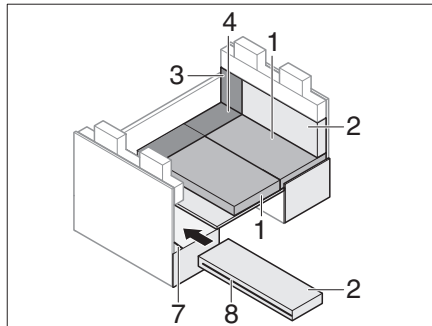

Fig. 198 During conversion
- Open the zip (Fig. 198,8) at the back cushion.
- Put the recess in the back cushion over the ISOFIX traverse (Fig. 198,7).